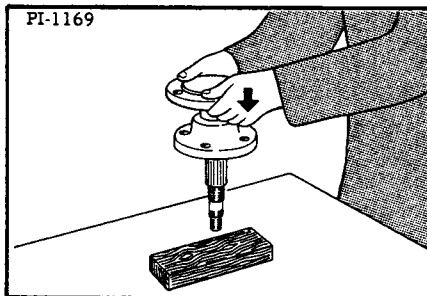

Fig. 74 Removing Hub from Axle
1. Remove the hub from the axle shaft by tapping the end of the axle on a block of wood (Figure 74).